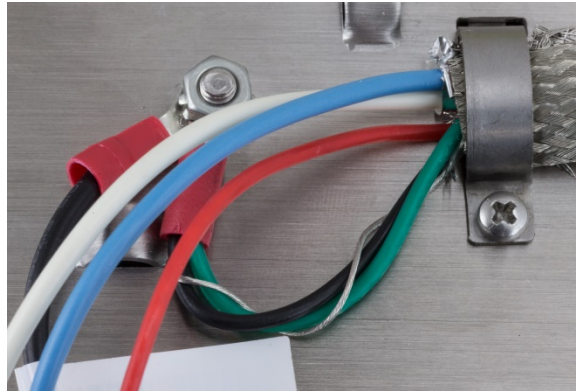

Figure 2-64: Ground Wiring
9. On the rear cover of the panel-mount enclosure, connect the short black wire (provided) and the twisted black and green wires from the POWERCELL cable to the external ground stud with a hex nut as shown in Figure 2-64.